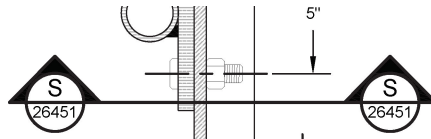

Figure 3-Example of Section in a Drawing
Unless it makes the drawing less readable, a line shall be drawn between each section symbol as indicated in Figure 3. This line shall be placed on the same layer as the section symbol (G-ANNO-SYMB see Table 2) and shall have a lineweight of at least 0.024" (see Table 3).
- c. Please ensure that sections are called via only a single letter. For example, in Figure 3, the section would be identified as Section S, not Section SS or Section S-S. If geological cross sections are provided in a drawing, this requirement can be ignored since a geological cross section will identify both the starting point and the ending point.